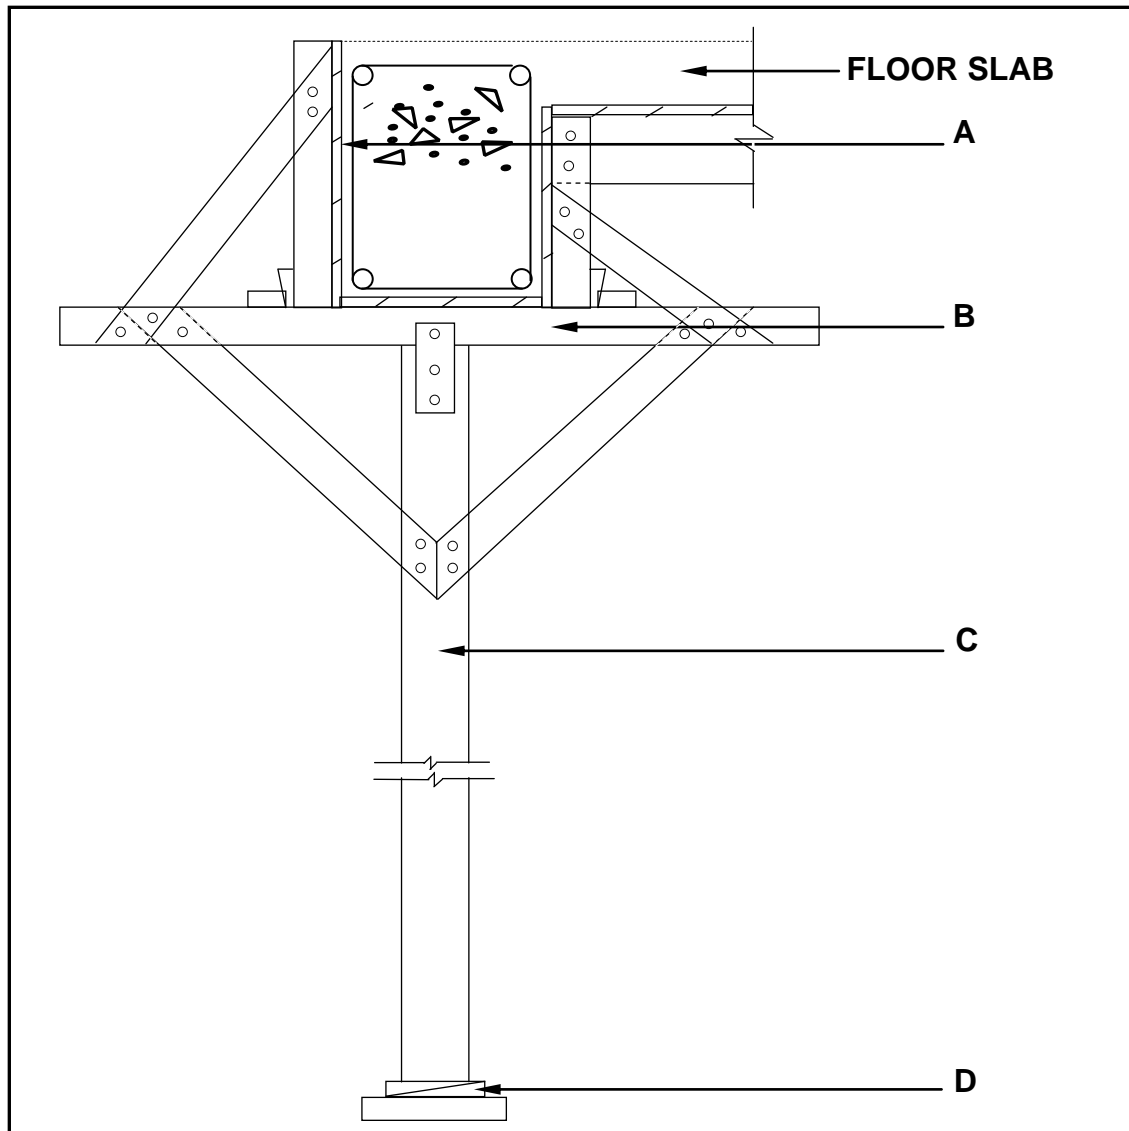

FIGURE 4.9
- 4.9 FIGURE 4.9 below is a drawing of a concrete beam with an attached floor slab. Study FIGURE 4.9 and answer the questions that follow.
- 4.9.3 Evaluate the drawing in FIGURE 4.9 and comment on the strength of the floor if it is cast as shown. (2)